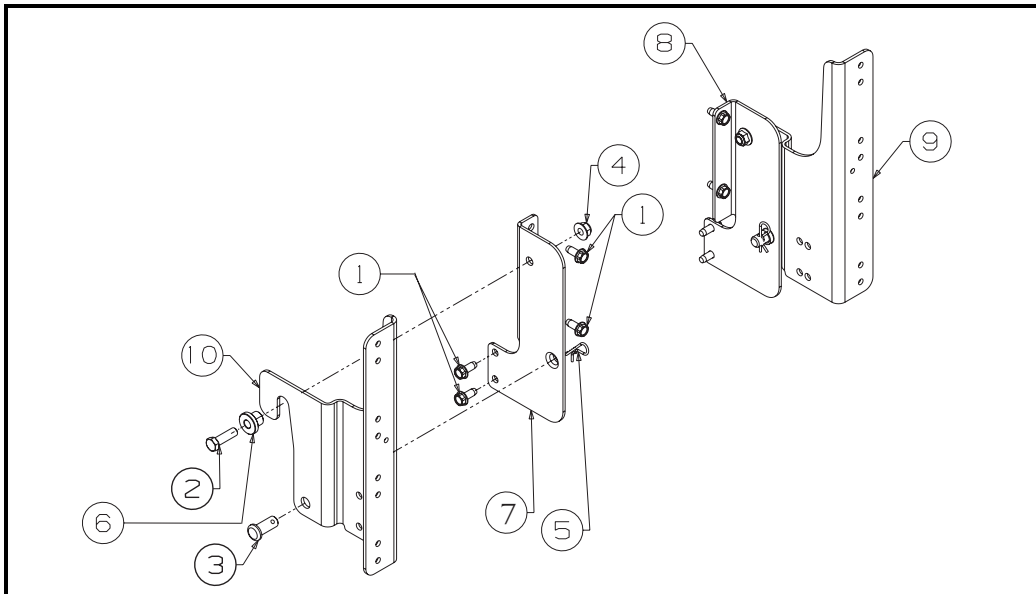

FIGURE 1
Service Kit Contents (See Figure 1)
5. Remove the contents of the service kit and familiarize yourself with the components using Figure 1 and the Kit Contents table.